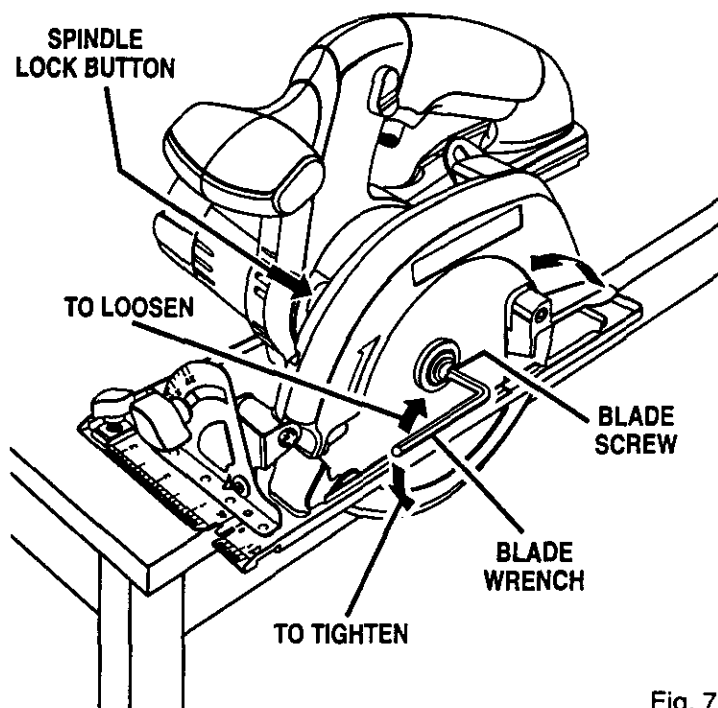

Fig. 7
See Figure 7.
- Position saw as shown in figure 7, depress spindle lock button, and remove blade screw.